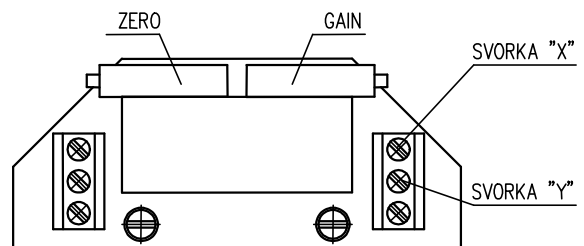

Fig. 8
3.4.2 EPV – 3-wire version (Fig. 8)
- Adjust the resistive transmitter according to the previous chapter. The resistance is to be metered on the terminals X-Y (Fig. 8). The used transmitter resistance is 2000 W or 100 W.
- Turn the adjusting trimmer ZERO (Fig. 8) to adjust the output current signal rate measured on the terminals 81-82 to 0 mA or 4mA.
- Turn the adjusting trimmer GAIN (Fig. 8) to adjust the output current signal rate measured on the terminals 81-82 to 20mA or 5 mA.